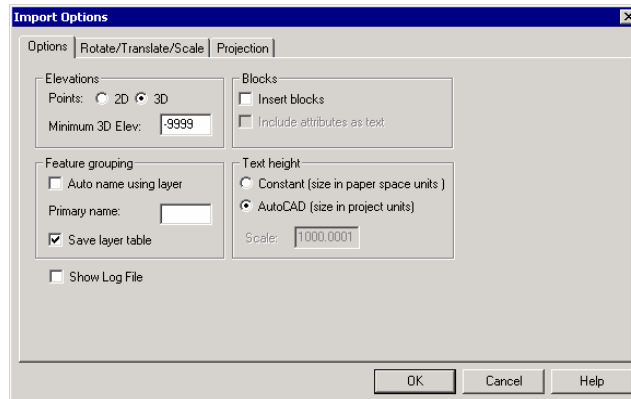

Figure 5.0: Import DWG/DXF Options Dialog
3. Set the dialog options to match those shown in Figure 5.0 and press OK.